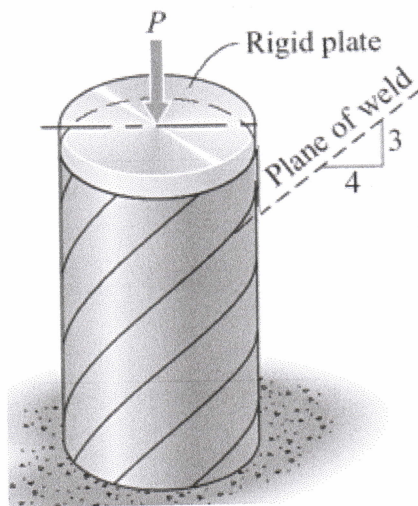

Figure Q2
- Q2.** The cylindrical pressure tank shown in **Figure Q2** has an inside diameter of 1.2 m and fabricated by butt welding 20 mm thick plate with a spiral seam. The pressure in the tank is 2800 kPa and axial load,  $P = 130$  kN is applied to the end of the tank through a rigid bearing plate. Determine